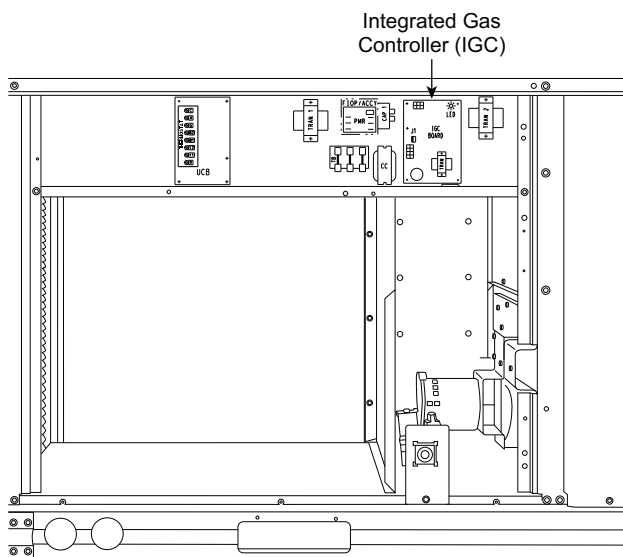

Fig. 54 — Unit Control Box/IGC Location
8. Remove igniter wires and sensor wires at the Integrated Gas Unit Controller (IGC). (See Fig. 54.)
Unit is equipped with a direct spark ignition 100% lockout system. The Integrated Gas Unit Controller (IGC) is located in the control box (see Fig. 54). The IGC contains a self-diagnostic